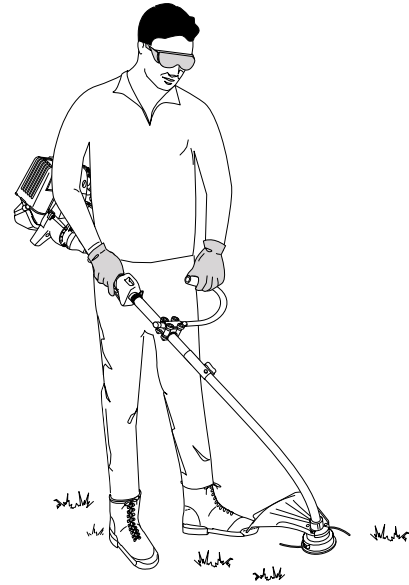

Fig. 3
3. While holding the unit in the operating position (Fig. 3), position the J-handle to the location that provides you the best grip.